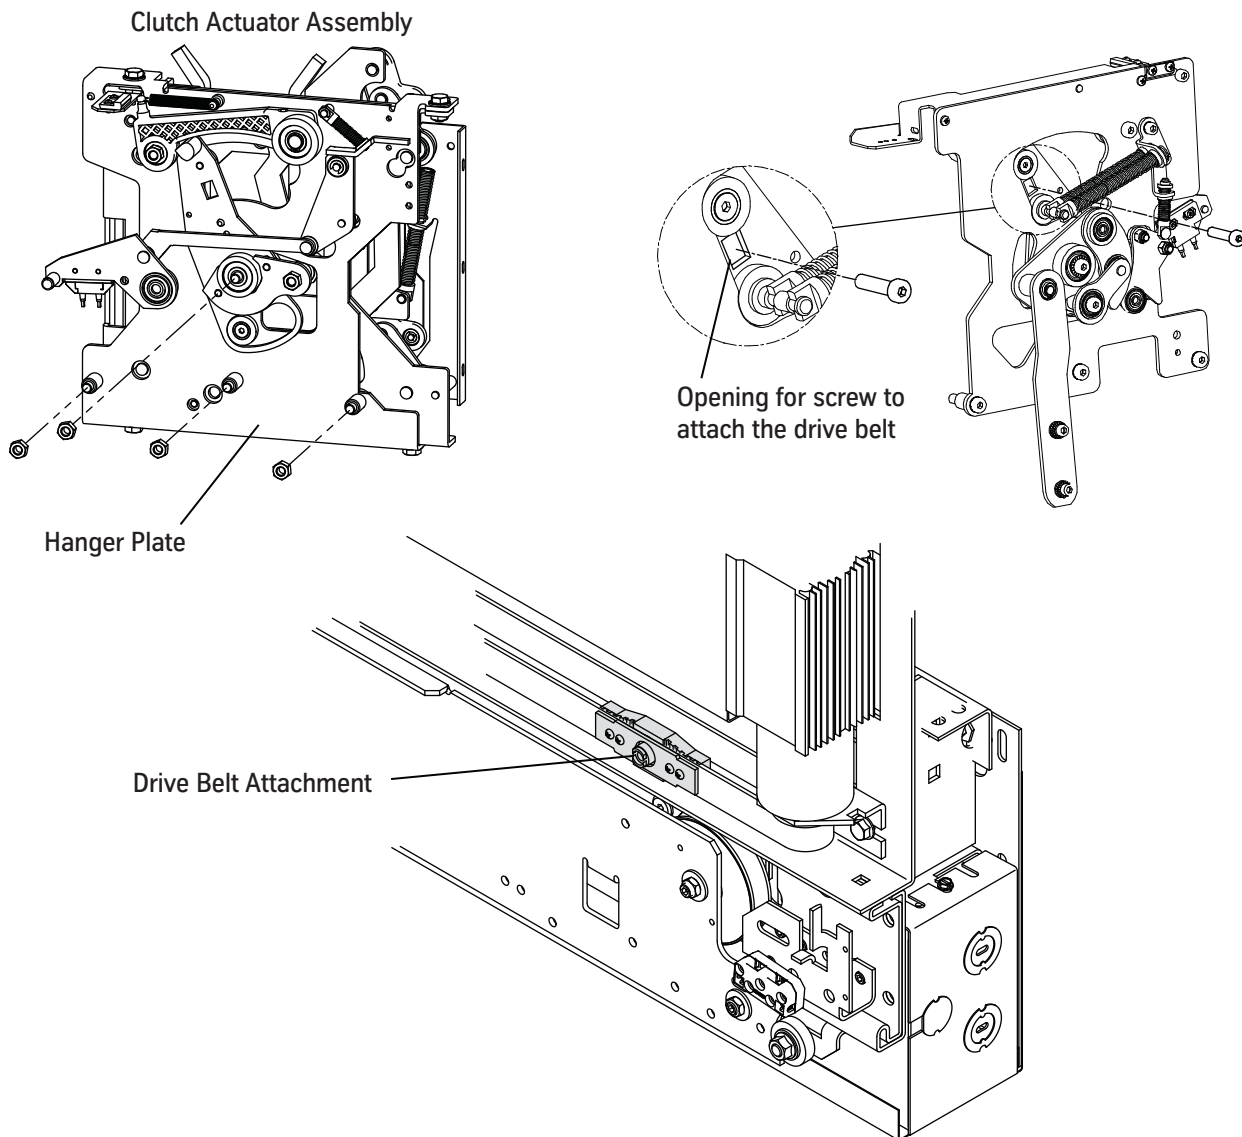

Figure 45 - Clutch Actuator Assembly Installation
2. Remove and discard 4 shipping nuts from the clutch actuator/restrictor assembly. See Figure 45.